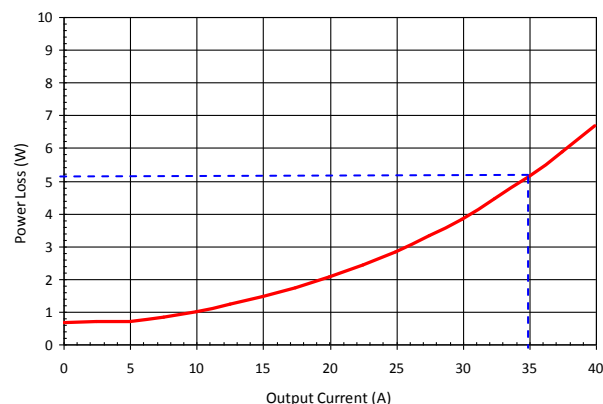

Figure 9: Typical IR3558 Power Loss
The measured single-phase IR3558 power loss under the same conditions is provided in Figure 9.
If any of the application condition, i.e. input voltage, output voltage, switching frequency, PVCC (HVCC/LVCC) MOSFET driver voltage or inductance, is different from those of Figure 9, a set of normalized power loss curves should be used. Obtain the normalizing factors from Figures 11-15 for the new application conditions; multiply these factors by the power loss obtained from Figure 9 for the required load current.
- 1) Determine the power loss at 35A under the default test conditions of  $V_{IN}=12V$ ,  $V_{OUT}=1.2V$ ,  $f_{SW} = 400kHz$ ,  $L=150nH$ , PVCC (HVCC/LVCC) = 7V,  $T_{AMBIENT} = 25^{\circ}C$ , no heat sink, and no air flow. It is 5.2W from Figure 9.